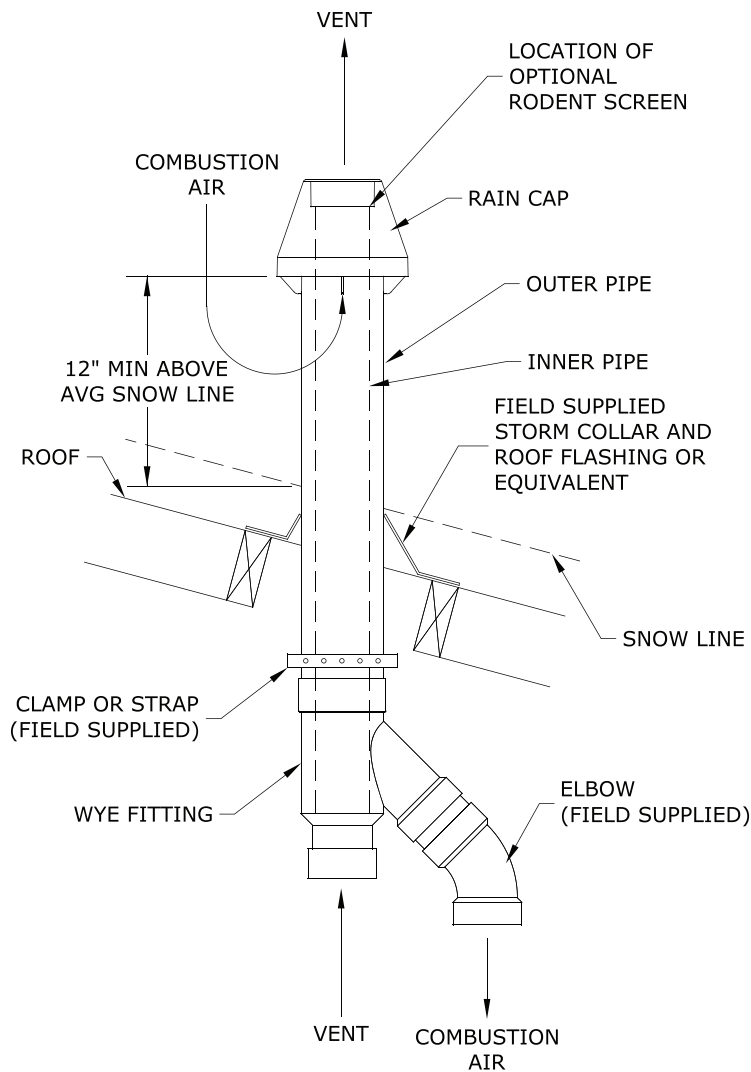

Figure 7.34: Installation of IPEX and DiversiTech Concentric Terminal Through Roof
7. Installation of IPEX FGV or DiversiTech CVENT Concentric Vent Terminal (Terminal Options D,E,I & J) - This terminal may be used for either horizontal or vertical venting. See Figure 7.33 for horizontal installation or Figure 7.34 for vertical installation. When PVC is used for venting a 30” CPVC straight section and CPVC elbow must be used prior to connection of the vent system to this terminal. If the vent system is too short to permit this, use the IPEX FGV CPVC terminal: